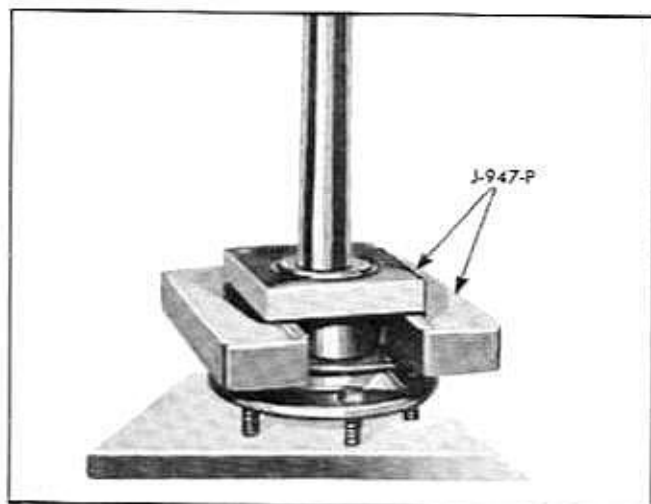

Fig. 4-10 Bearing Replacer Tool J-947-P in Place for Pressing Bearing Off Shaft
3. With tool J-947-P engaging outer race of bearing and ring enclosing bearing (Fig. 4-10), press shaft from bearing in arbor press.